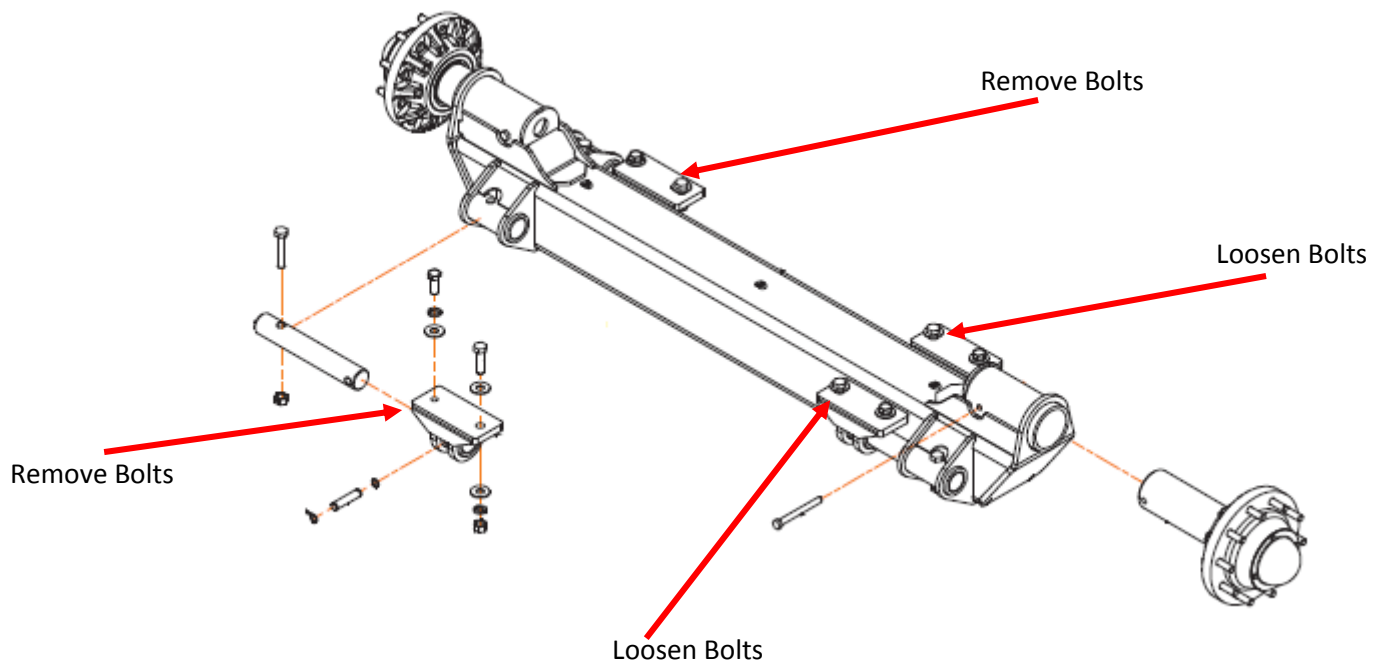

Fig. 1
4. Remove the four bolts that retain the hopper sub-frame to the two left side axle shaft retaining brackets. Refer to Figure 1 for location.